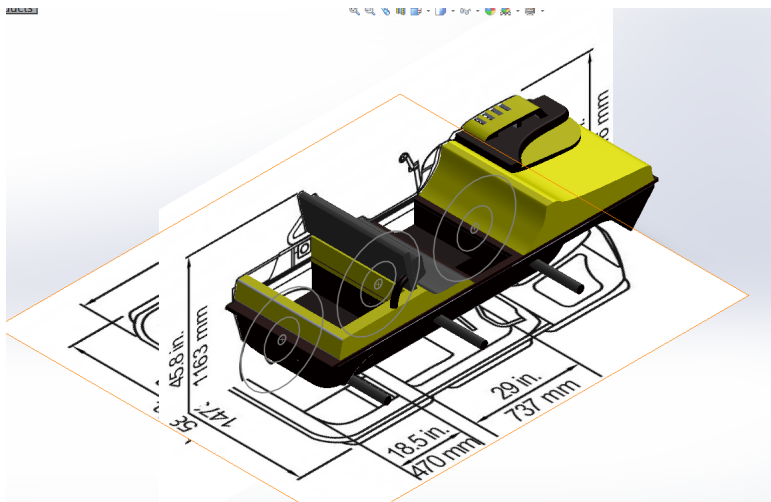

Figure 3: Base Visual Model
3. Develop the solidworks visual model on top of the blueprints. An example is shown in Fig 3 and 4.